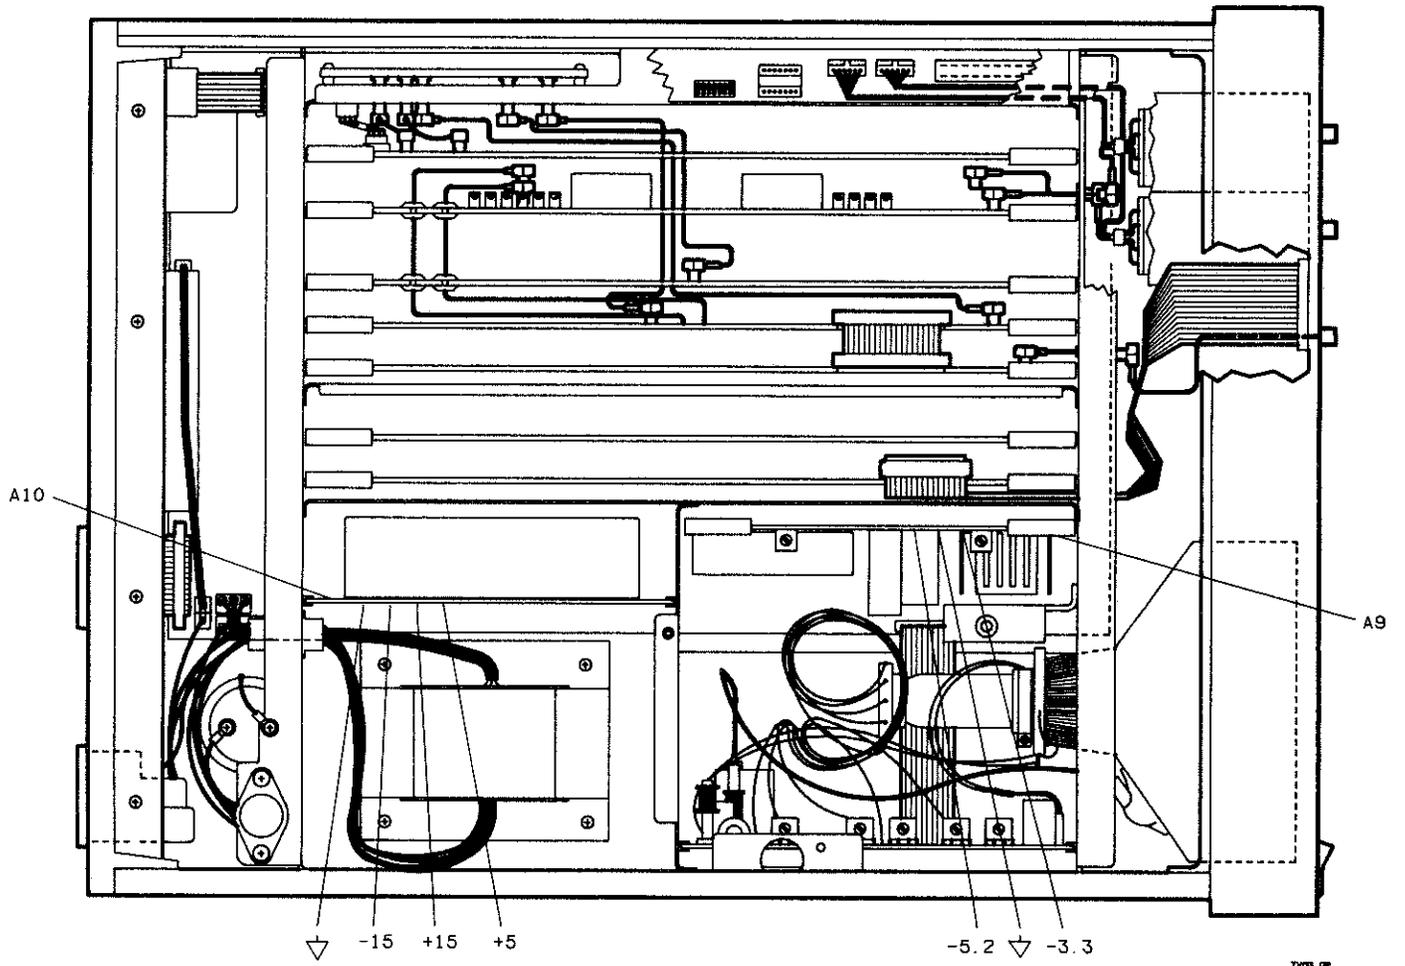

Figure 7-1. HP 5371A Power Supply Locator (Instrument Top View)
- B. Measure voltage regulators as shown in *Figure 7-1*.